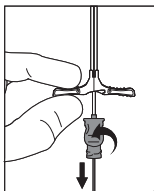

Figure 3
22. Holding sheath in place, remove guidewire and dilator as a unit (refer to Figure 3).